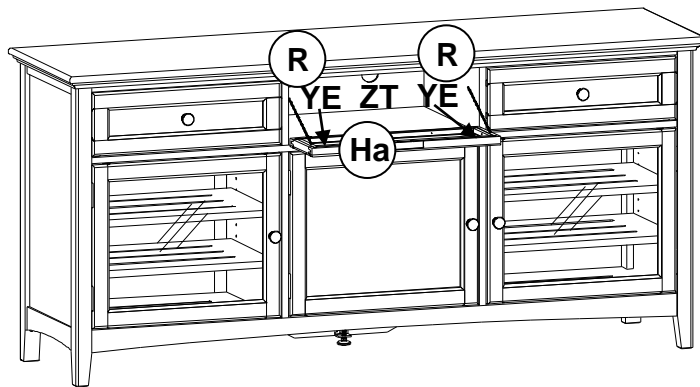

Fig. 2
2. To open the Speaker Door (Ha), press both corners until the magnets release. Gently grasp the finger groove in the top middle of the door and pull open. To shut the door, push gently but firmly on the Speaker Door until the Tuscan Magnetic Plates (YE) make secure contact with the Magnetic Push Locks (R). See Figure 2.